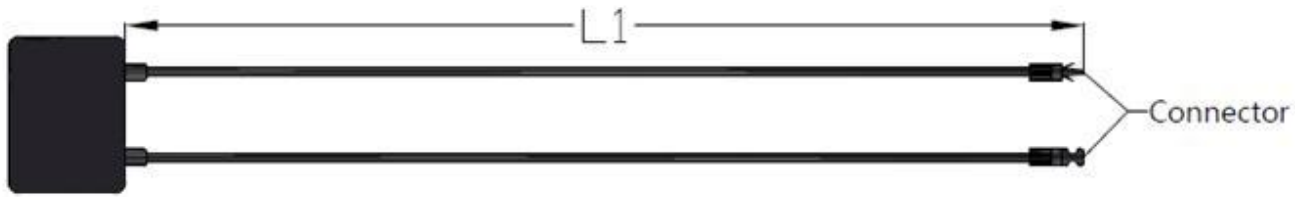

Figure 4: Junction box
- f) Follow the requirements of applicable local and national electrical codes. g) These modules contain factory installed bypass diode .If these modules are incorrectly connected to each other, the bypass diodes, cable or junction box may be damaged. h) The cable of the junction box is defined as L, as showed below in Figure 4. For FineHiSolar standard module, L is 900; 1200mm; and for customized module, L can be based on your condition. Please take the cable length into consideration before designing the wiring layout.